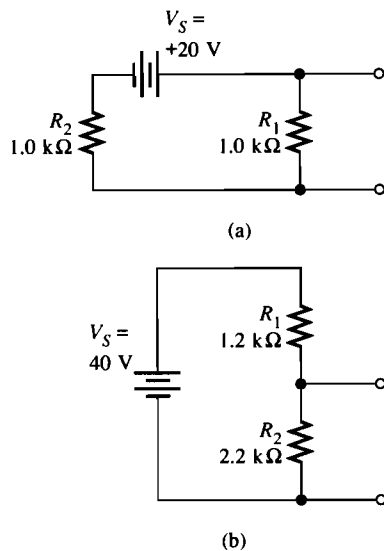

Figure 12-6
5. Draw the Thevenin circuit for the circuits shown in Figure 12-6.